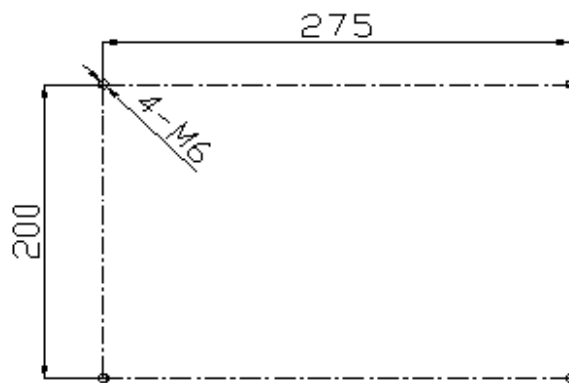

Figure 3-4 Illustration of installation
- The Solar Mate need to be installed vertically, please choose a flat surface and with 4xM6 supplied to install following Figure 3-4.